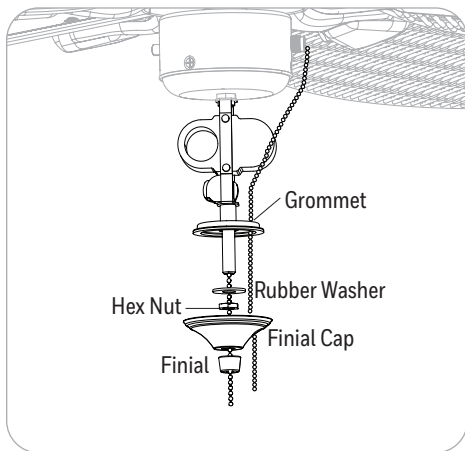

Figure 4.7
7. Remove the finial, finial cap, hex nut, and washer from the threaded rod on the light kit. Then feed the pull chain coming from the switch housing down through the preassembled grommet in the lower part of the light kit (Figure 4.7).